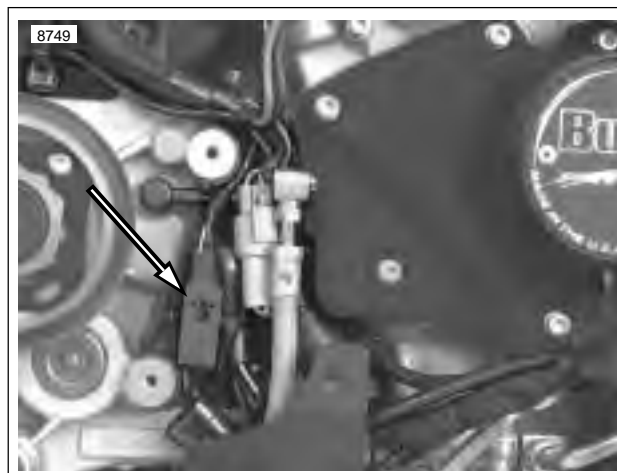

Figure 4-66. Cam Position Sensor Connector [14] (stator connector disconnected)
4. See Figure 4-66. Disconnect cam position sensor wiring at connector [14].